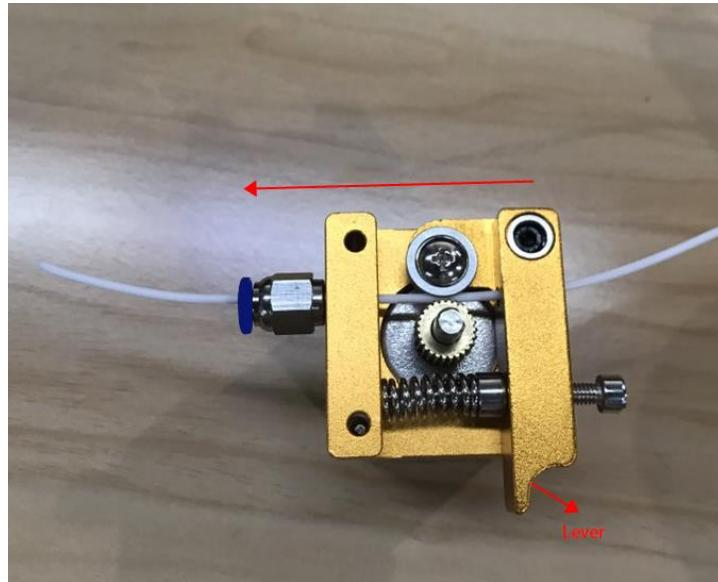

Figure 5.120 Push down the filament
- Step 1** Press down the lever on the extruder, and push down the filament to the bottom of the hole via the pulley, as shown in Figure 5.120.